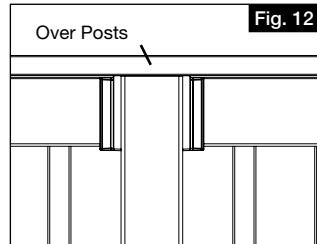

Fig. 12
- c. If installing railing OVER the post (Fig. 12): Make sure rails are fully seated with balusters and level and centered to post sleeve. Mark the side of the post at the same point where the top corner of the top rail intersects the post sleeve. While leaning railing to side, cut the posts to the length marked.